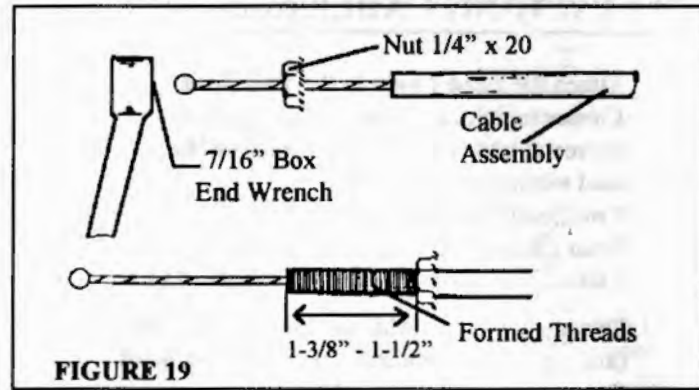

FIGURE 19
1. To use the Snap-In Adapter, it will be necessary to form threads on the end of the Cable Assembly. This is easily accomplished by placing the 1/4" - 20 Nut on the end of the Cable Assembly with your fingers. Then use a 7/16" box end wrench and turn clockwise until the desired amount of threads have been formed. (Figure 19)
3. Before using the 1/4"-20 Nut, remove the Adjustable Sleeve from the Cable Assembly. Then use the 1/4"-20 Nut to form threads on the end of the Cable Assembly. This is easily accomplished by first placing the 1/4" - 20 Nut on the end of the Cable Assembly with your fingers and then use a 7/16" box end wrench and turn clockwise until the desired amount of threads have been formed. (Figure 19, page 14)
1. To use **Threaded Tube Clamp**, it will be necessary to form threads on the end of the **Cable Assembly**. This is easily accomplished by first placing the  $1/4'' - 20$  Nut on the end of the **Cable Assembly** with your fingers and then use a  $7/16''$  box end wrench and turn clockwise until the desired amount of threads have been formed. (Figure 19, page 14 )